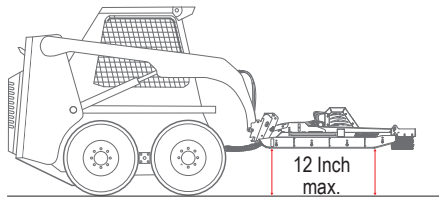

Figure 1
6. Install the Lift Limiting Chain to the front of your loader with very little slack. Ensure the chain will not contact the rotating blades. The chain must limit attachment lift height at the rear to less than 12" (300 mm) to reduce the risk of serious injury or death from flying debris (See Figure 1 on page 29).
- When mounted onto a loader, do not operate the brush cutter with the back of the attachment over 12" above the ground.(Figure 1)